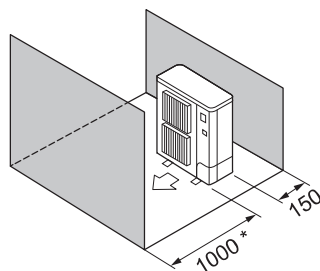

Fig. 2-11
- ⑤ Obstacles at front and rear only (Fig. 2-11)